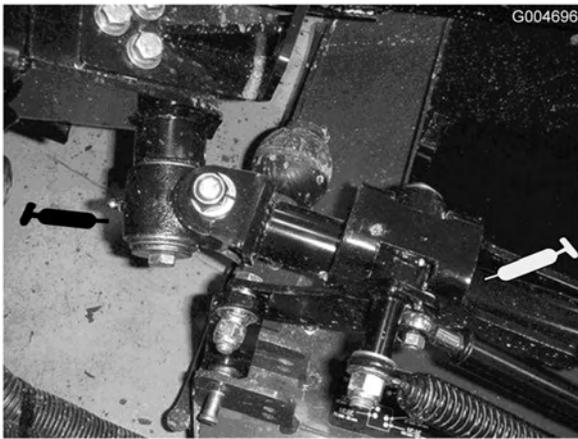

Figure 44
- Bell crank pivot bushings (2) (Figure 44)
- Rear arm bushings (4) (Figure 44)